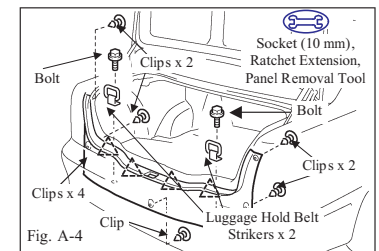

Fig. A-4
- ii. Remove the two (2) bolts and two (2) luggage hold belt strikers. (Fig. A-4)
- iii. Remove the five (5) clips and the rear floor finish plate. (Fig. A-4)